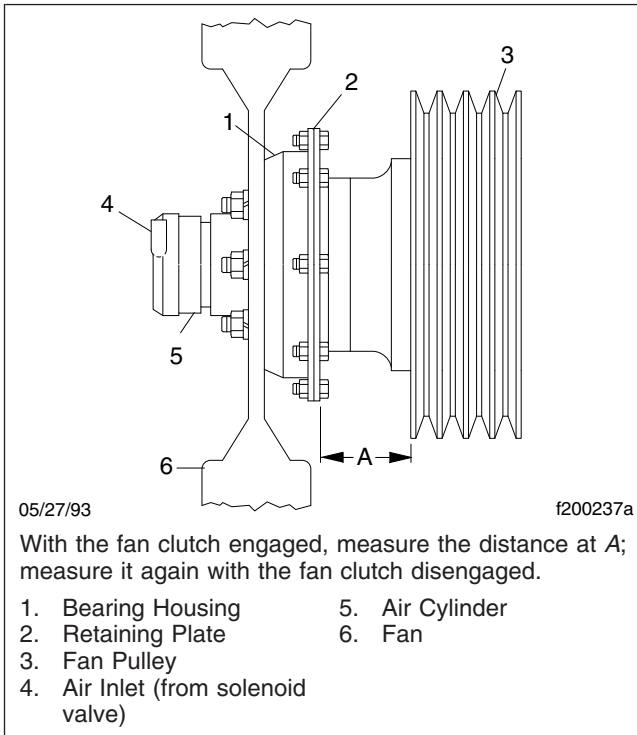

Fig. 7, Kysor K22RA Fan Clutch Lining Wear Check
2. Measure the distance from the back surface of the fan clutch retaining plate to the forward-most edge of the fan belt pulley. See Fig. 7, Ref. A.